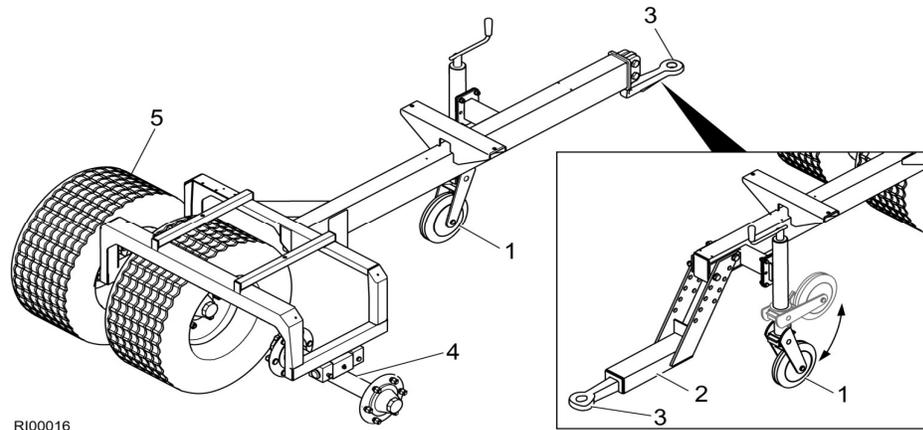

Fig. 9 Chassis, complete DS1600
The chassis consists of a profile steel frame to which two running axles (Fig. 9/4) (each with twin tyres (Fig. 9/5)) are attached. The drawbar with angled drawbar eye (Fig. 9/3) is inserted into the profile steel frame. The jockey wheel (Fig. 9/1) with adjustment spindle is bolted to the outside left of the profile steel frame.
- Downward cranked hitch (bottom hitch) (Fig. 9/2)